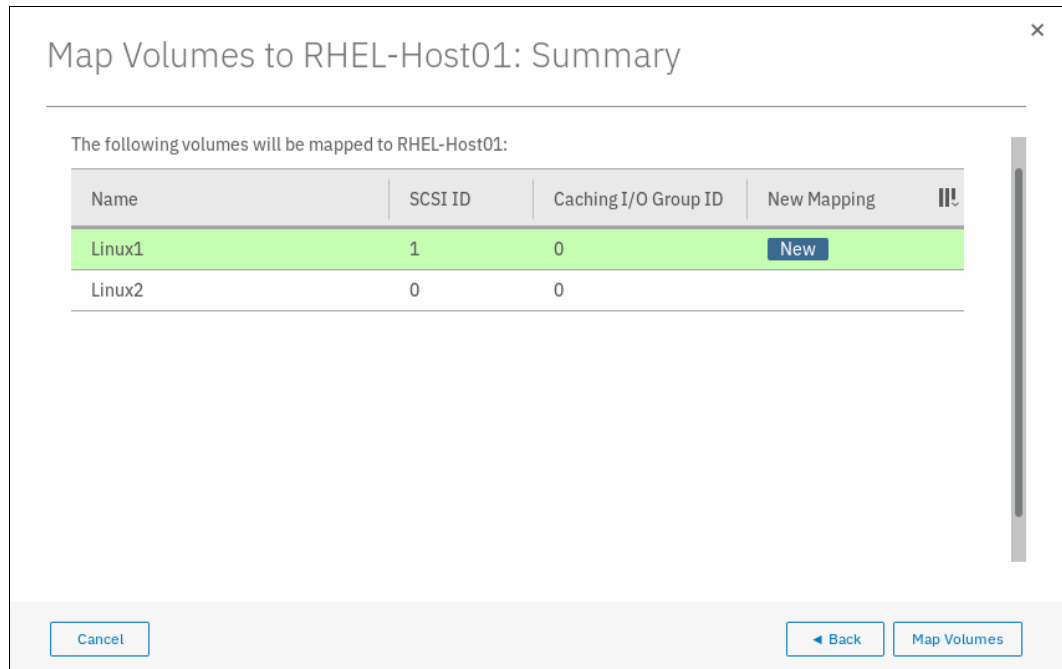

Figure 6-39 Map Volume summary
3. Click **Next**. A summary window opens in which the volume to be mapped along with existing volumes that mapped to the host are listed, as shown in Figure 6-39.